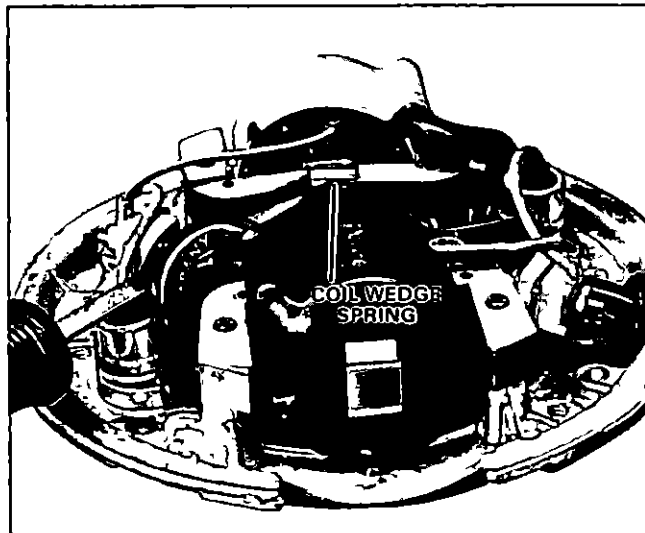

Figure 35. Removing Coils
- 6 Pry lip of coil wedge spring up from coil laminations as shown in Figure 35